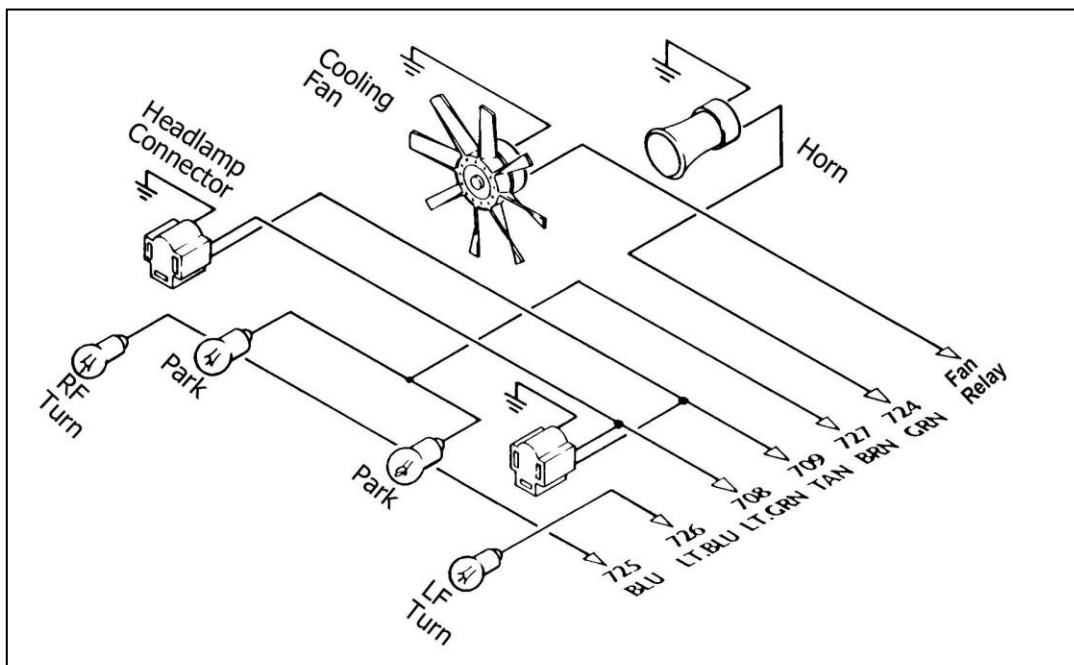

Figure 7.4 HEADLIGHT SECTION A
7.6 HEADLIGHT SECTION A. See Figure 7.4.
Note: The wire going to the fan in Figure 7.4 will be coming from the fan relay output terminal. Wire #701 (gry/wht) from the ACCESSORY SECTION SWITCHES is an activation wire for the fan relay. DO NOT TRY TO POWER THE FAN WITH THIS WIRE.